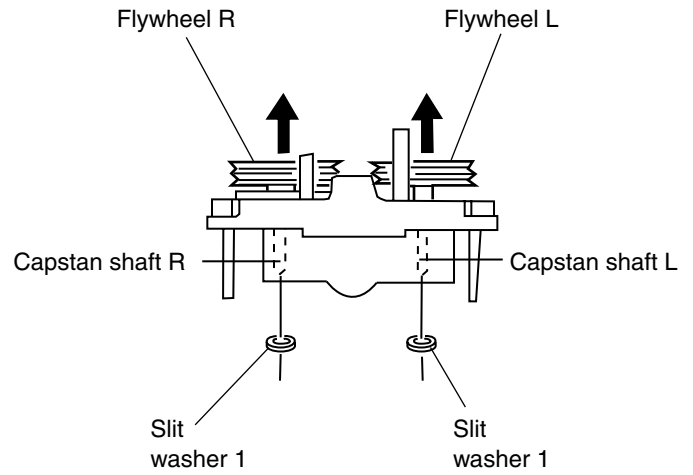

Fig. 7
■ Removing the flywheel (See Fig. 7 and 8)